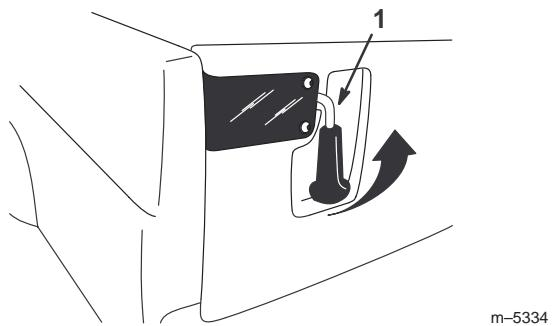

Figure 13
- To open the tailgate latches, lift the latch handles up (Fig. 13). The latches will spring out toward the center of the tailgate. Slowly lower the tailgate.